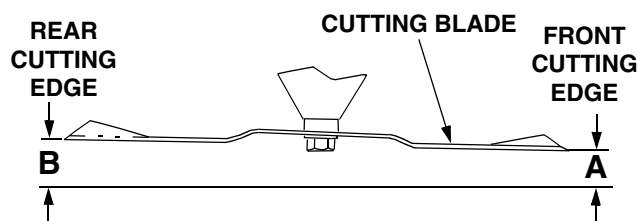

Figure 61
4. Refer to Figure 61. Measure and record the distance from the front cutting edge to the ground (measurement A), and from the rear cutting edge to the ground (measurement B), for each of the blades. The front edge of each blade (measurement A) should be lower than its back edge (measurement B) by 1/8 to 1/4 inch.